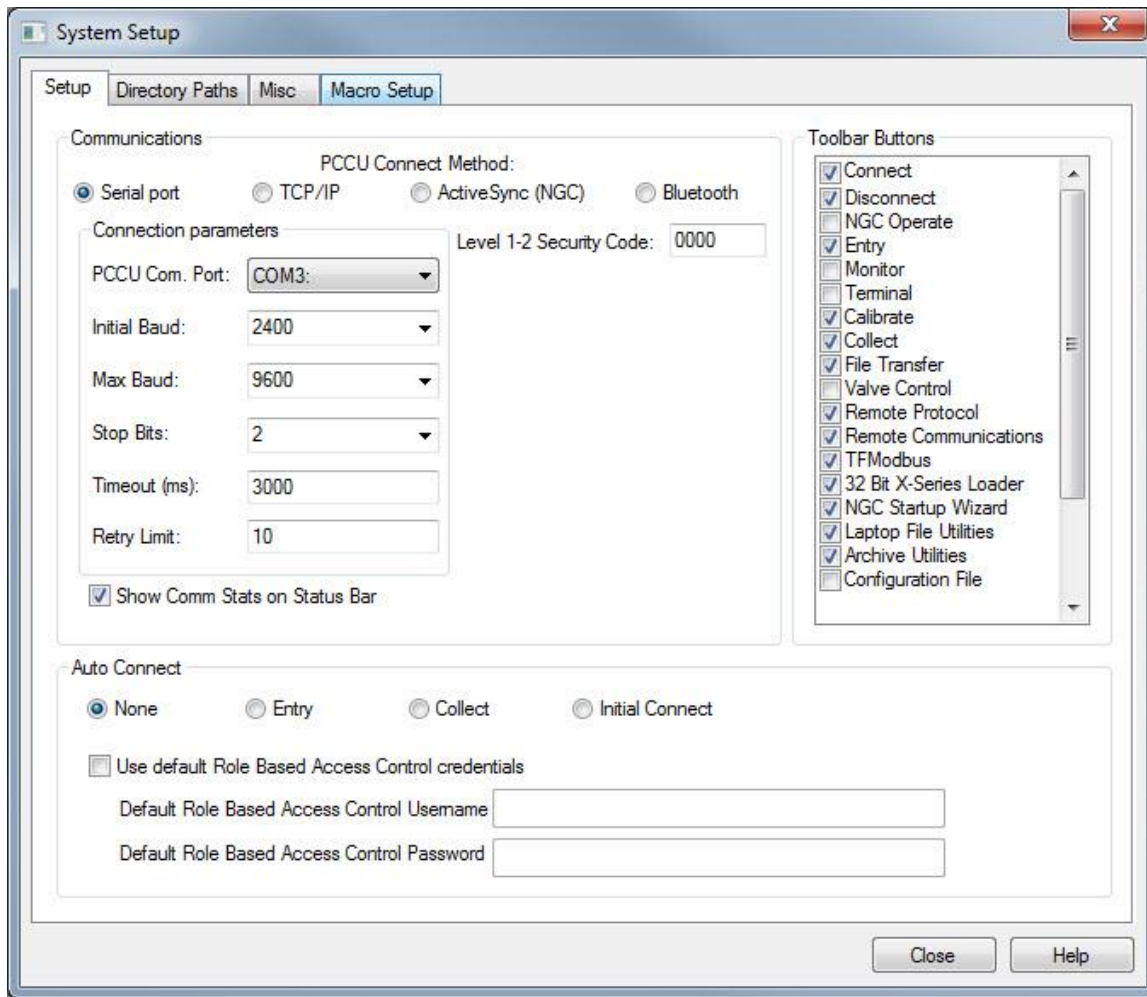

Figure 63 Setup for local communication
4. Click **Setup** on the top menu bar. The System Setup window displays the **Setup** tab (Figure 63).
If the meter has been given a security code, make sure that you have entered that code in PCCU32 System Setup screen (see Figure 63). However, if your meter has been cold started, the security code will be reset to factory default and historical data will be lost.
4. Click **Setup** on the top menu bar. The System Setup window displays the **Setup** tab (Figure 63: *Setup for local communication*).